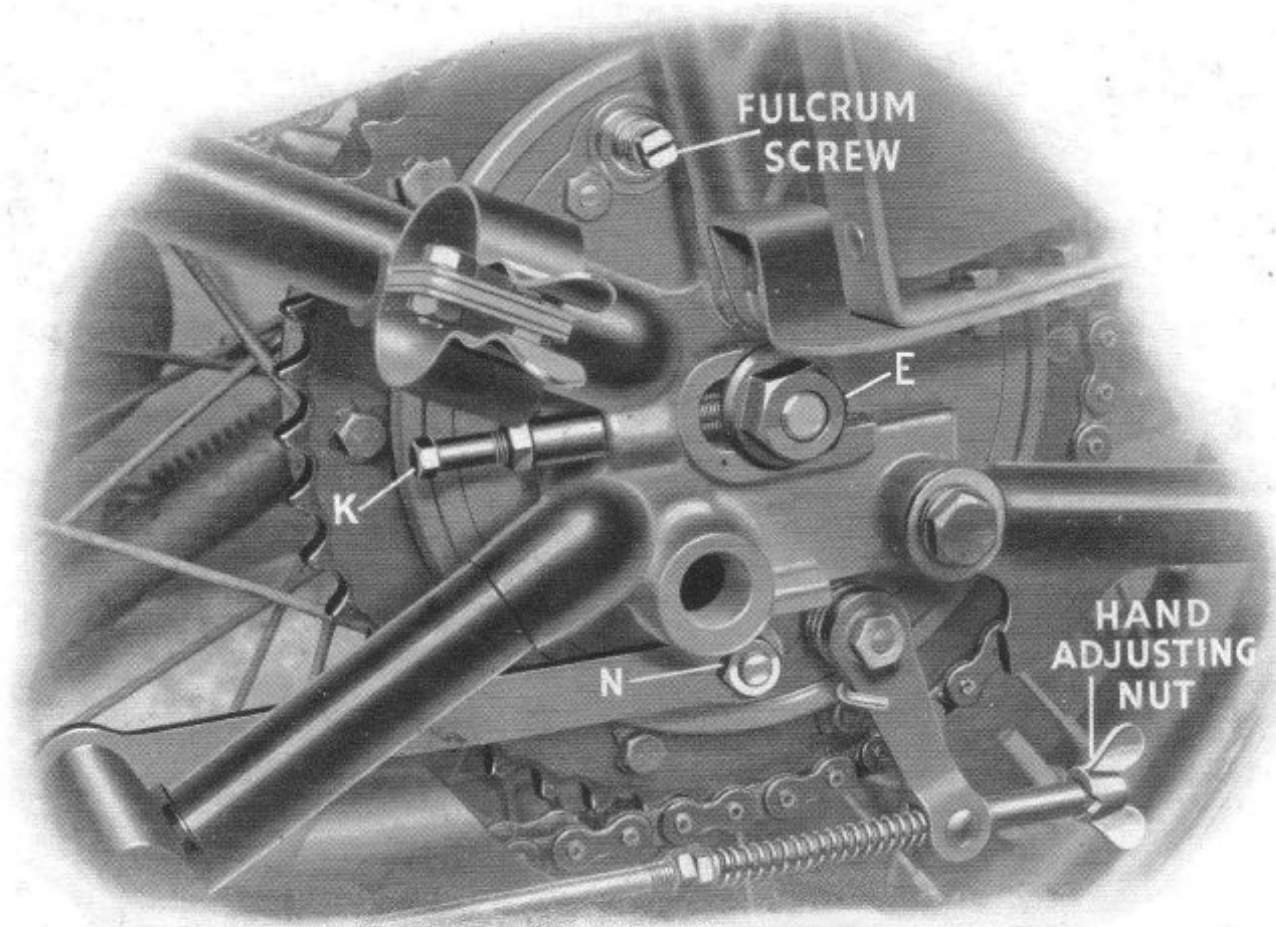

Fig. E3. Rear Brake Fulcrum and Chain Adjustment.
off the rear wheel spindle nuts and turn the chain adjusters (see Fig. E3) until the wheel touches the board at two points. The handlebars may require turning very slightly to adjust the position of the front wheel to correspond with the new position of the rear wheel.
5. Brake Adjustment (See Fig. E3).